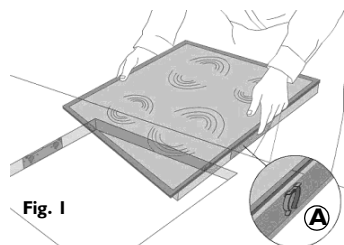

Fig. 1
- Position the 4 clips **(A)** around the cooktop frame, in the slots provided, see Fig. 1